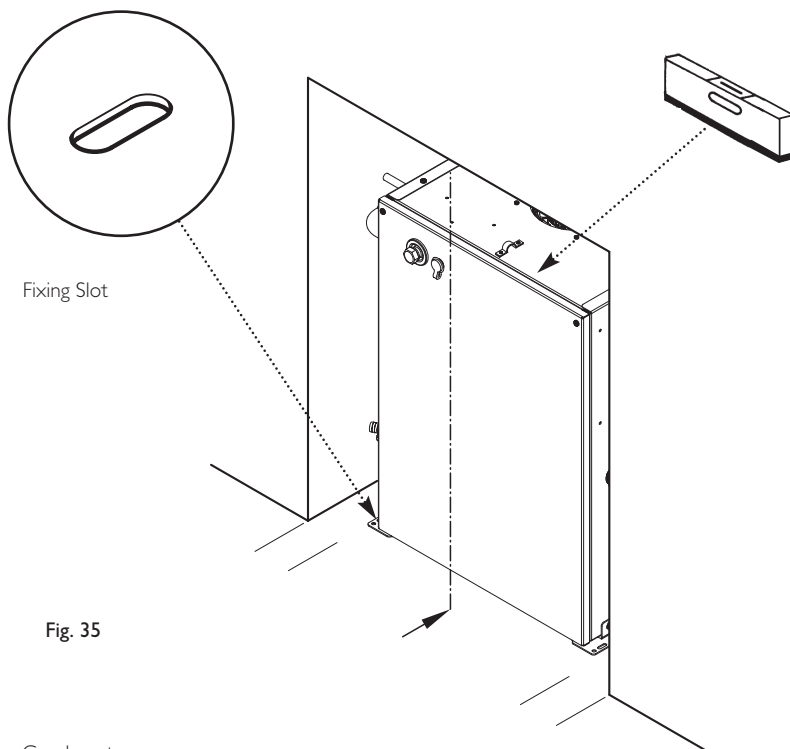

Fig. 35
3. Mark the hearth through two of the slots in the base (Fig. 35). Remove the boiler and drill the hearth. Insert suitable plugs. Replace the boiler & check the alignment within the opening. Secure the boiler with suitable screws.